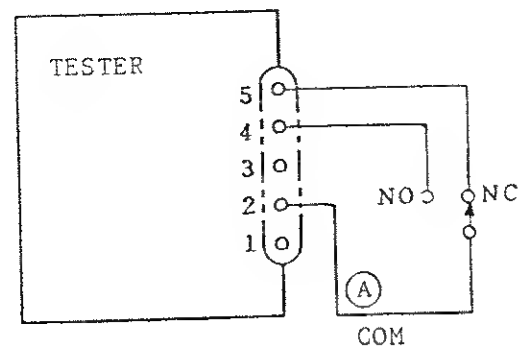

Figure 4.6
- ② In the case of the setup shown in Figure 4.6, the test voltage is turned on when the switch is thrown to the NO Position, and the instrument is forcibly reset when the switch is returned to the NC position.